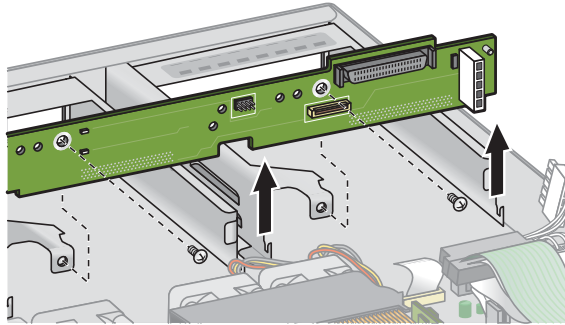

FIGURE 4-12 Removing the SCSI Backplane
8. Lift the SCSI backplane up and out of the chassis (see FIGURE 4-12).